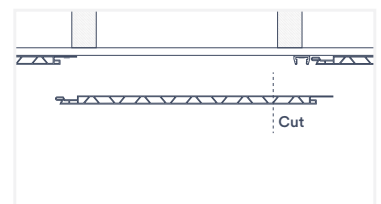

Fig. 35
7. Cut your replacement panel to fit between the existing panel joint and the U Channel base (Fig. 35).